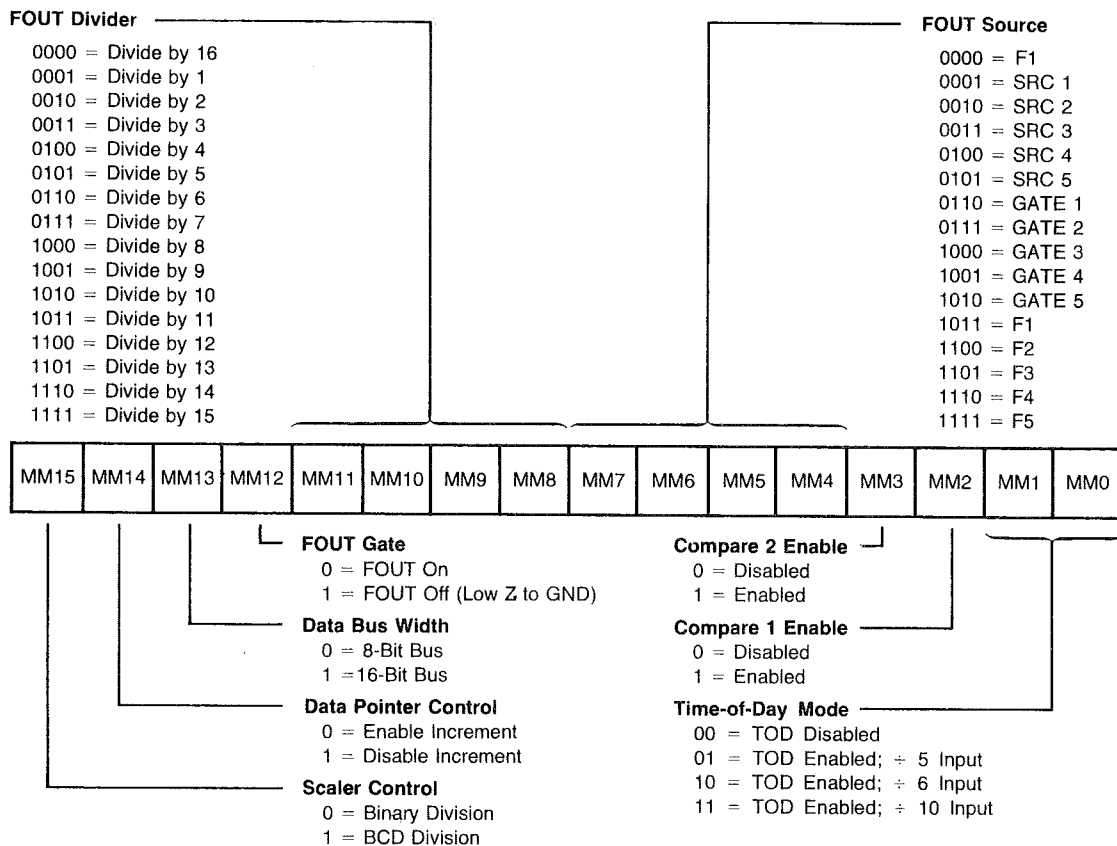

Figure 13. Master Mode Register Bit Assignments.
The 16-bit Master Mode (MM) register is used to control those internal activities that are not controlled by the individual Counter Mode registers. This includes frequency control, time-of-day operation, comparator controls, data bus width and data pointer sequencing. Figure 13 shows the bit assignments for the Master Mode register. This section describes the use of each control field.